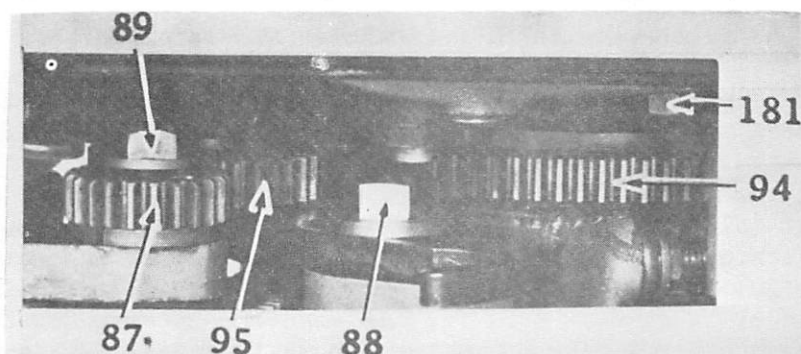
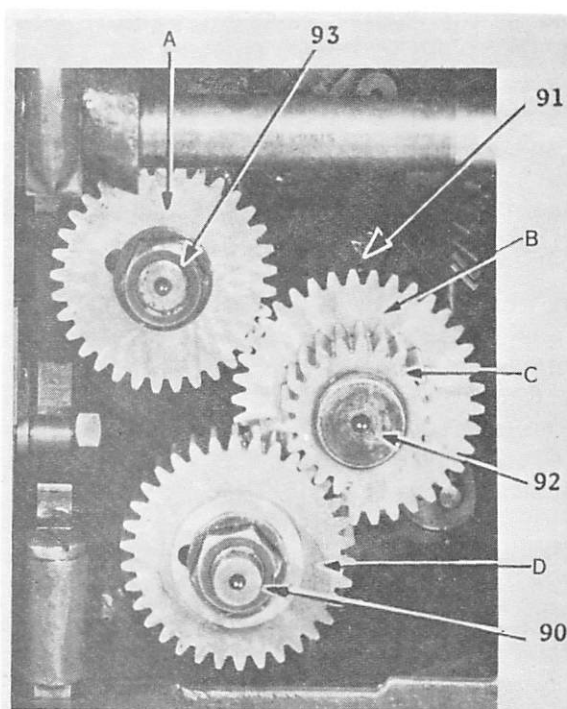

Fig. 17 Changing Stitch Regulating Gear
Fig. 18 Changing Differential Gears
The number of stitches in the buttonhole is controlled by the stitch regulating gear (87, Fig. 17) in the left side of the machine and also the differential gears (A,B,C and D, Fig. 18) near the bottom of the machine.
To remove the stitch regulating gear (87), loosen the screw (88, Fig. 17) and push the slotted lever away from you, then remove the nut (89, Fig. 17) and lift off the gear. To remove the differential gears (A,B,C, and D), tip the machine over to the left onto the machine rest, remove the nut (90, Fig. 18) and take out the gear (D), loosen the screw (91, Fig. 18) fastening the shaft (92, Fig. 18) to the bracket with a wrench and pull out the shaft (92, Fig. 18) and gears (B and C); also remove the nut (93, Fig. 18) and take out the gear (A). The combination of differential gears and stitch regulating gear is as noted in the following chart.
Having selected the stitch regulating gear desired, place it in position and firmly fasten it with nut (89, Fig. 17). Then rotate the feed wheel ring (94, Fig. 17) and at the same time pull the end of slotted lever toward you until the adjusting gear (95, Fig. 17) is fully in mesh with the stitch regulating gear (87, Fig. 17). After the gears have been correctly set, tighten the screw (88, Fig. 17).
Having selected the differential gears desired, lock the differential gears (B and C) with the pin on the lock washer and insert the shaft (92, Fig. 18), then firmly fasten the shaft to the bracket with screw (91, Fig. 18) using a wrench. Then replace the gears (A and D) and securely tighten the nuts.